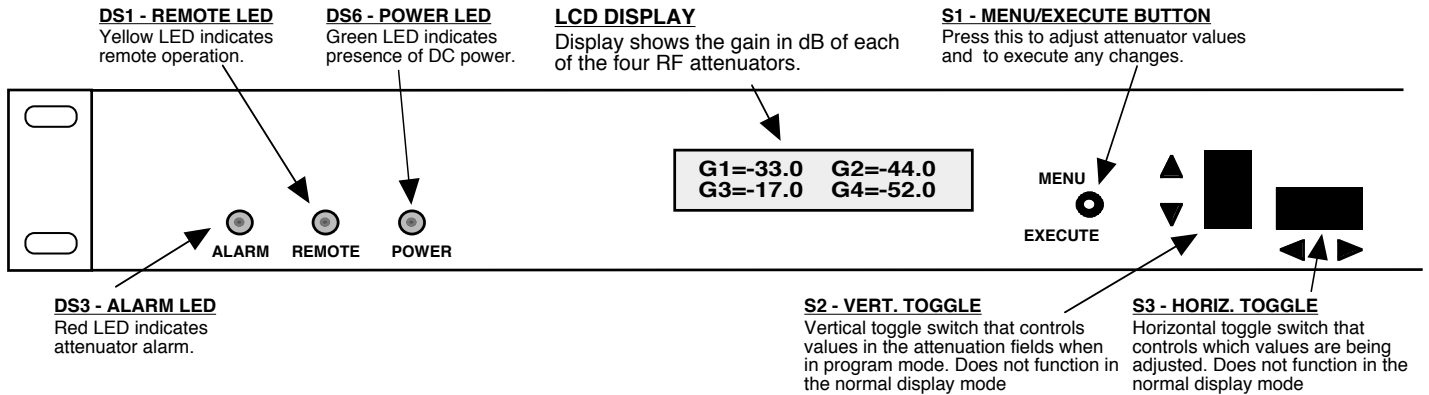

FIGURE 2.2 1586-04-0431 Front Panel Controls and Indicators
- 5.) Be sure DS1 (DC Power) is green (Figure 2.2).
Alarm indications appear on the LEDs (see figure 2.2).